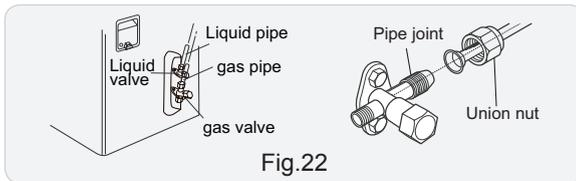

Fig.22
(2) Remove the screw cap of valve and aim the pipe joint at the bellmouth of pipe.(As show in Fig.22)